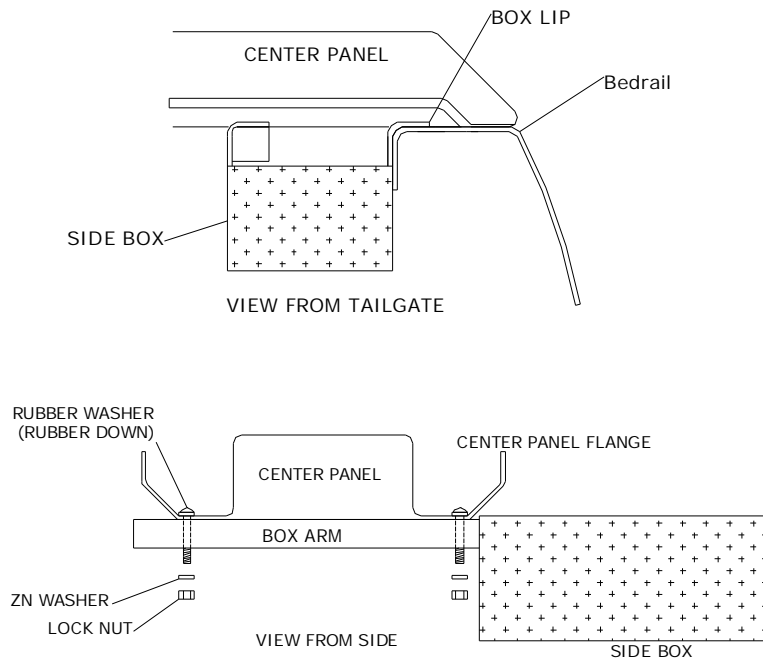

Figure 4
2. Hold the arm of one side box under the center panel of the cover. Make sure that the box lip is resting entirely on the bed rail of the truck, and that the rear of the box is tight against the flange of the center panel (**Figure 4**).
NOTE: Ideal hole placements are located as far to the outside of the center panel flange width as possible. (Figure 4)
4. Install two bolts with rubber washers through the center panel flange and box arm as shown in **Figure 4**.